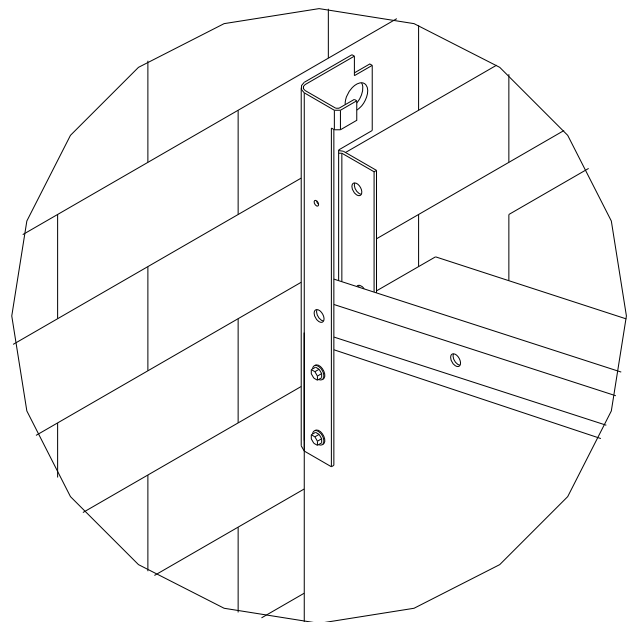

FIGURE 7
2. Lift the side arm/front bar assembly together and locate across the already installed side frames and mounting brackets. Position it on top so as the side arms on the top frame are facing the wall and land between the mounting brackets on side frames. (See Figure 7)